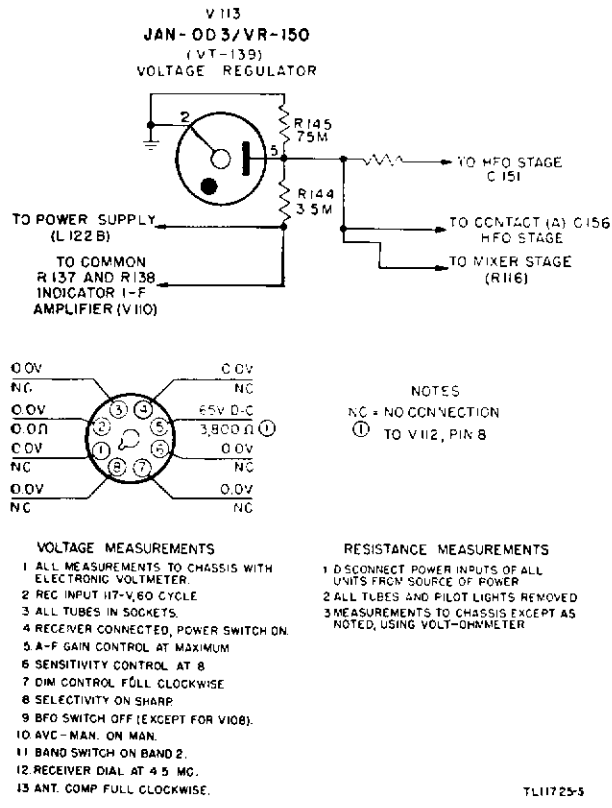

Figure 26. Radio Receiver BC-1147-(*), voltage regulator stage.
47. Voltage Regulator Stage (fig. 26)